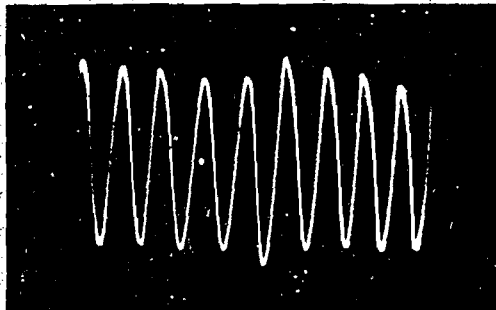
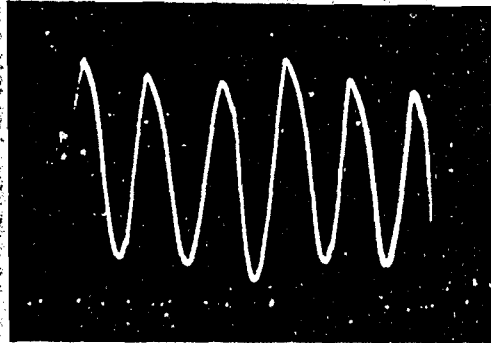

Fig. 1B
Fig. 2B
2. Adjust R22 (150 Hz Feedback Adj.) to the point where feedback is just sufficient to sustain full amplitude oscillation. See Fig. 1B.
Note: If the signal amplitude at TP7 is insufficient to operate the counter, connect it to TP11, throw Delete switch to delete 90 Hz, and adjust R26 (150 Hz Amp. Adj.) for sufficient signal to operate the counter. See Fig. 2B.
11. With scope connected to TP8, throw Delete switch to delete 90 Hz. Signal should appear as in Fig. 1B. Throw Delete switch to delete 150 Hz and signal should appear as in Figure 2B.